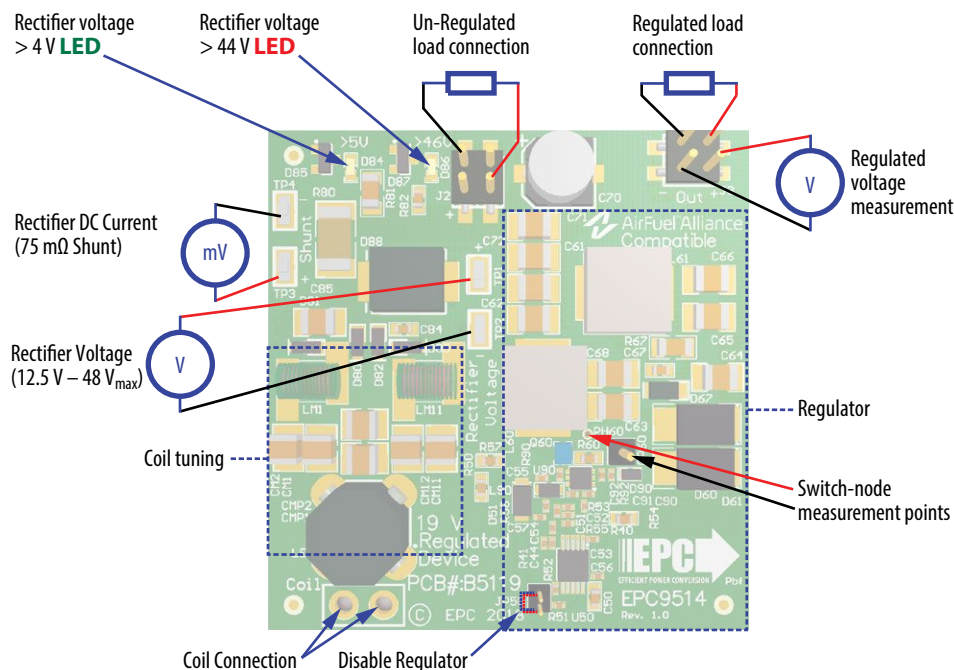

Figure 3: Proper connection and measurement setup for the receiver board.
Figure 3 shows the proper connection method to the EPC9514.
The EPC9514 demonstration system is easy to set up and evaluate the performance of the eGaN FET in a wireless power transfer application. Refer to Figure 3 for proper connection and measurement setup before following the testing procedures.
1. Make sure the entire system is fully assembled (this includes the wireless power transmitter) prior to making electrical connections and make sure jumper JP50 is NOT installed. Connect the load to the regulated output and connect all required instrumentation according to figure 3.
1. Make sure the entire system is fully assembled (this includes the wireless power transmitter) prior to making electrical connections and make sure jumper JP50 is installed. Connect the load to the un-regulated output and connect all required instrumentation according to figure 3.
When measuring the high frequency content such as the switch-node, care must be taken to avoid long ground leads. An oscilloscope probe connection (preferred method) has been built into the board to simplify the measurement of the switch-node voltage (shown in Figure 3).